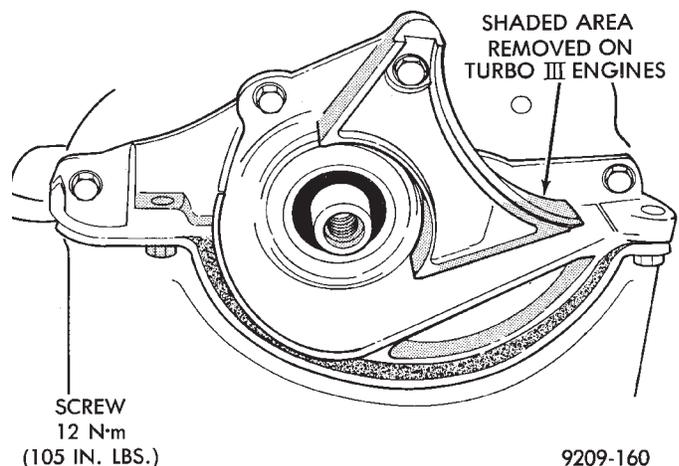

Fig. 5 Front Crankshaft Oil Seal Retainer
- (1) Remove retainer screws (Fig.5).